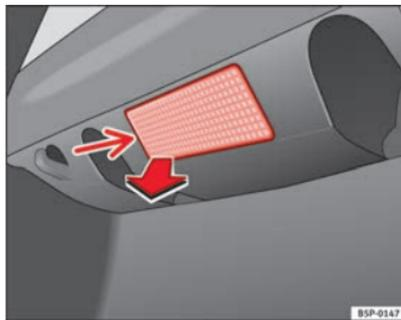

Fig. 166 Luggage compartment light
- Extract the tulip shaped fitting by pressing on the inside edge of this -arrow- using the flat side of a screwdriver ⇒ fig. 166. ▶